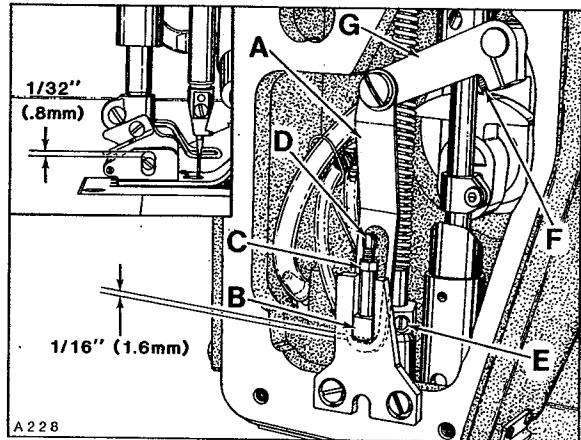
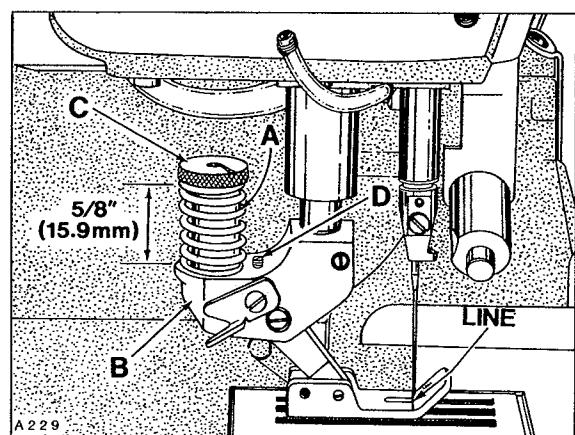

Fig. 22
Fig. 23
With needle bar at bottom of stroke and presser foot resting on throat plate, there should be $1/32$ inch (.8mm) clearance between top of screw and top of slot in presser foot as viewed in Figure 22. There should be $1/16$ inch (1.6mm) clearance between bottom of slot in lifter lever link (A) and bottom of presser bar guide (B) when foot lifter lever is released. If adjustment is required, loosen nut (C) and turn screw (D) down approximately $1/8$ inch (3.2mm) below bottom surface of presser bar guide (B). Back off presser spring regulating screw and loosen screws (E) in presser bar guide (B) so that presser foot rests squarely on throat plate and screw (D) is touching the bottom of presser bar guide plate, then retighten screws (E).
With presser foot resting on throat plate, the distance from top of spring (A, Fig. 23) to top of yoke (B) should be $5/8$ inch (15.9mm) and the line stamped across the
Remove presser spring regulating screw, presser bar spring guide and presser bar spring. Loosen nut (C, Fig. 22) and turn screw (D) down approximately 1/8 inch (3.2mm) below bottom surface of presser bar guide (B). Loosen screws (E) in presser bar guide (B). Adjust spring regulator nut (C, Fig. 23) as required, so its lower surface is 5/8 inch (15.9mm) from top of yoke (B) as viewed in Figure 23. With presser foot resting on throat plate and feed dog down below throat plate, press down on spring regulator nut (C) until the marks in presser foot bottom align with centerline of needle and positioned to keep needle in center of needle slot. Tighten screws (E, Fig. 22) securing presser bar guide to presser bar, ensuring stop screw (D) in presser bar guide is resting on bottom of presser bar guide plate.
Replace presser bar spring, spring guide and spring regulating screw. Turn regulating screw down until the top of its threaded portion is level with head casting. Rotate handwheel to position feed below throat plate with presser foot resting on throat plate. Depress presser foot lifter lever to see if presser foot bottom moves SLIGHTLY towards the rear before presser foot begins to lift. Adjustment can be made by turning stop screw (D, Fig. 23) clockwise to shorten or counterclockwise to lengthen the distance of travel.
Loosen screw (F, Fig. 22) in lifter arm (G) and rotate arm slightly as required to obtain 1/16 inch (1.6mm) clearance between link (A) and guide (B); retighten screw (F) ensuring no left to right shake in lifter arm (G).
Purpose of the feeding presser foot is to make top and bottom plies of material feed the same amount without pulling on the bottom ply. Final adjustment may be required to match plies; turning nut (C, Fig. 23) to increase pressure on spring (A) will tend to feed the bottom ply more... decreasing pressure will tend to feed the top ply more.